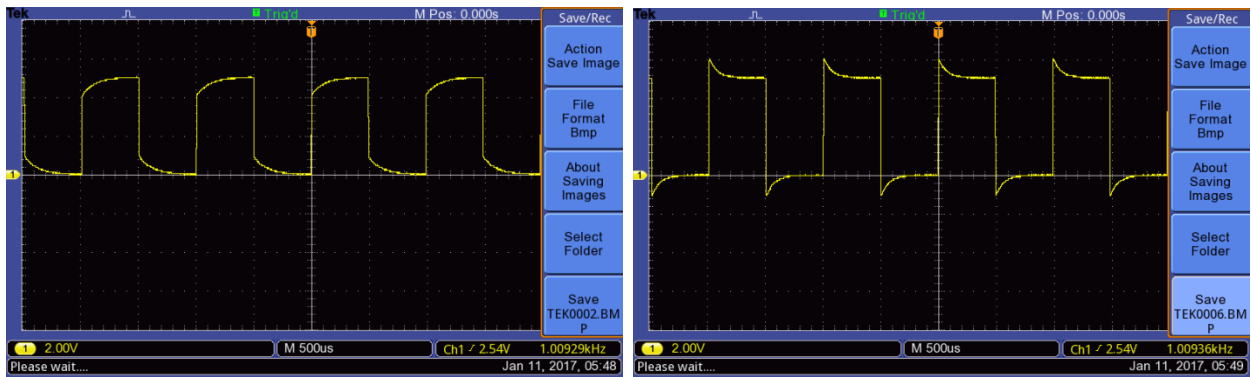

Figure 4: Left is an under compensated probe and right is an over compensated probe.
5. If the 5 volt, 1 KHz signal looks like either picture in **Figure 4**, continue to the next step.